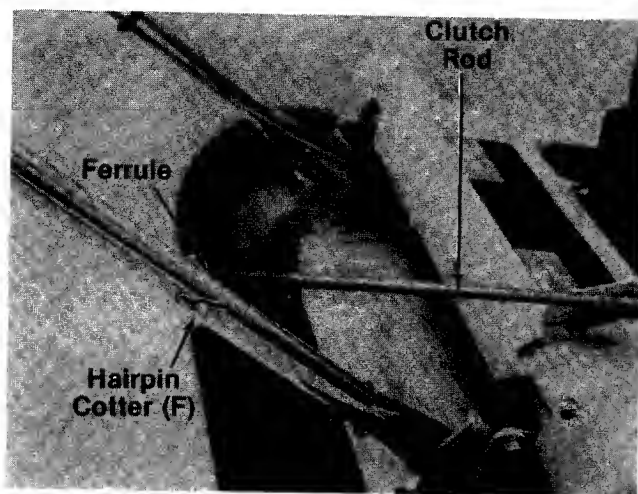

FIGURE 11.
20. Pivot the clutch rod back. Raise the handle slightly and thread the ferrule onto the clutch rod until the ferrule lines up with the hole in the lower handle. Secure ferrule in handle with hairpin cotter (F) as shown in figure 11.
The drive pinions should be approximately $1/16''$ from the drive wheels when the clutch is disengaged (handle is **not** pushed forward). Refer to figure 11.